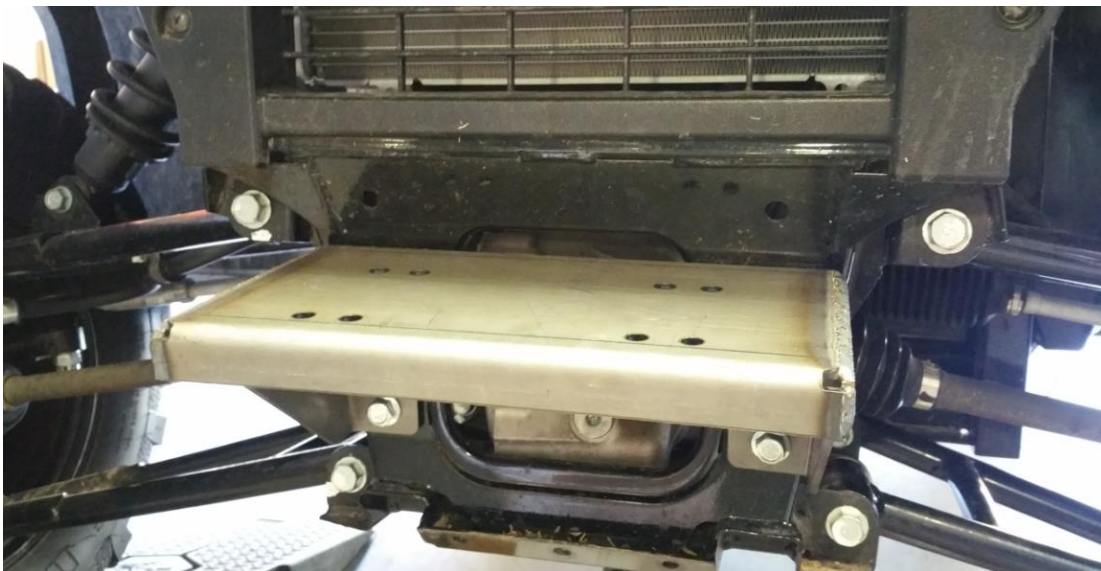

Figure 2
2. Position the Winch Mount Base Plate over the front frame rails as shown in Figure 2.